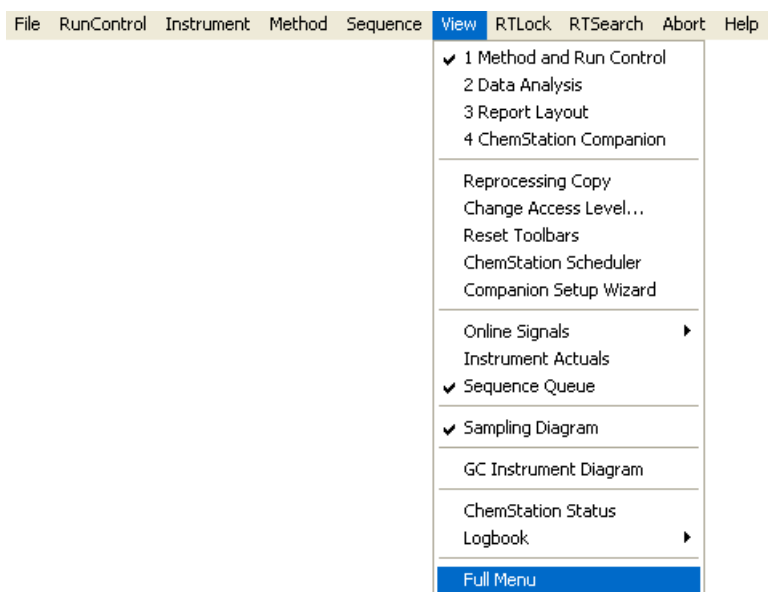

**Figure 4** Viewing the Full Menu in Agilent GC ChemStation
- 1 To access **Instrument Configuration**, select **View > Full Menu** in the data system's top menu (Figure 4). This allows access to special menu items in the data system.